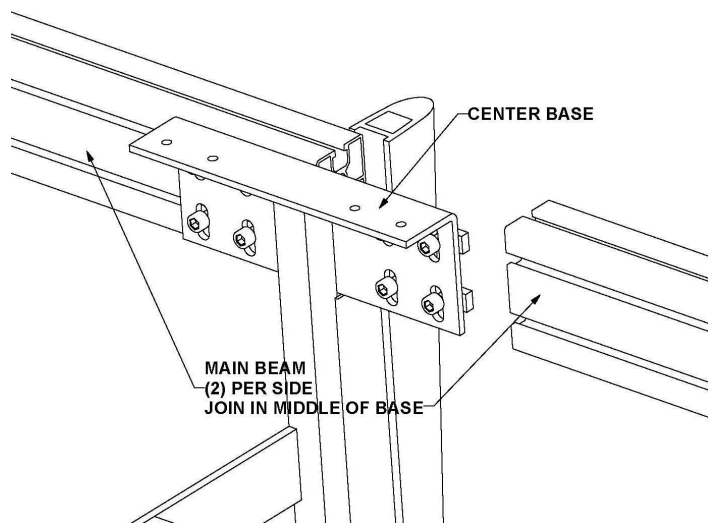

Figure 3
5. Center Base Installation: For Tables 168" and longer Slide (2) Main Beams together onto the Clamp Bars positioning such that the (2) Main Beams meet in the center of the Base. Using the Allen Wrench, tighten Cap Screws (See Figure 3)